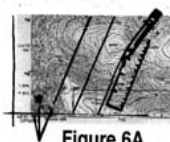

Figure 6A
6. The Nexus 1-2-3 Method (Paralleling System) automatically corrects for Declination. The Nexus 1-2-3 Method can be used with all Nexus compasses on maps which have Magnetic Meridians drawn to the map's declination. Find your local declination at the declination diagram on the base of the map. (Figure 6A)